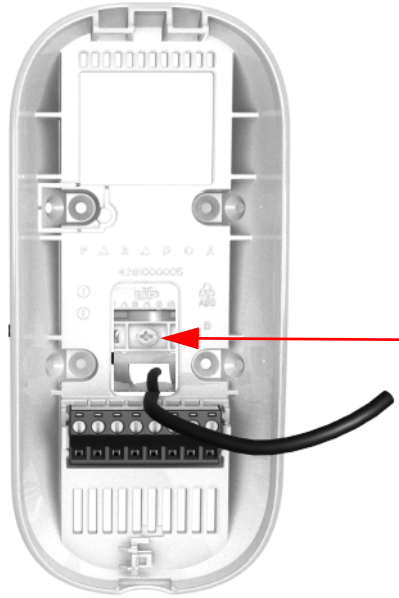

Figure 2.13 – Angle Adjustment Screw
2. Loosen the angle bracket screw (see Figure 2.13 on page 15).